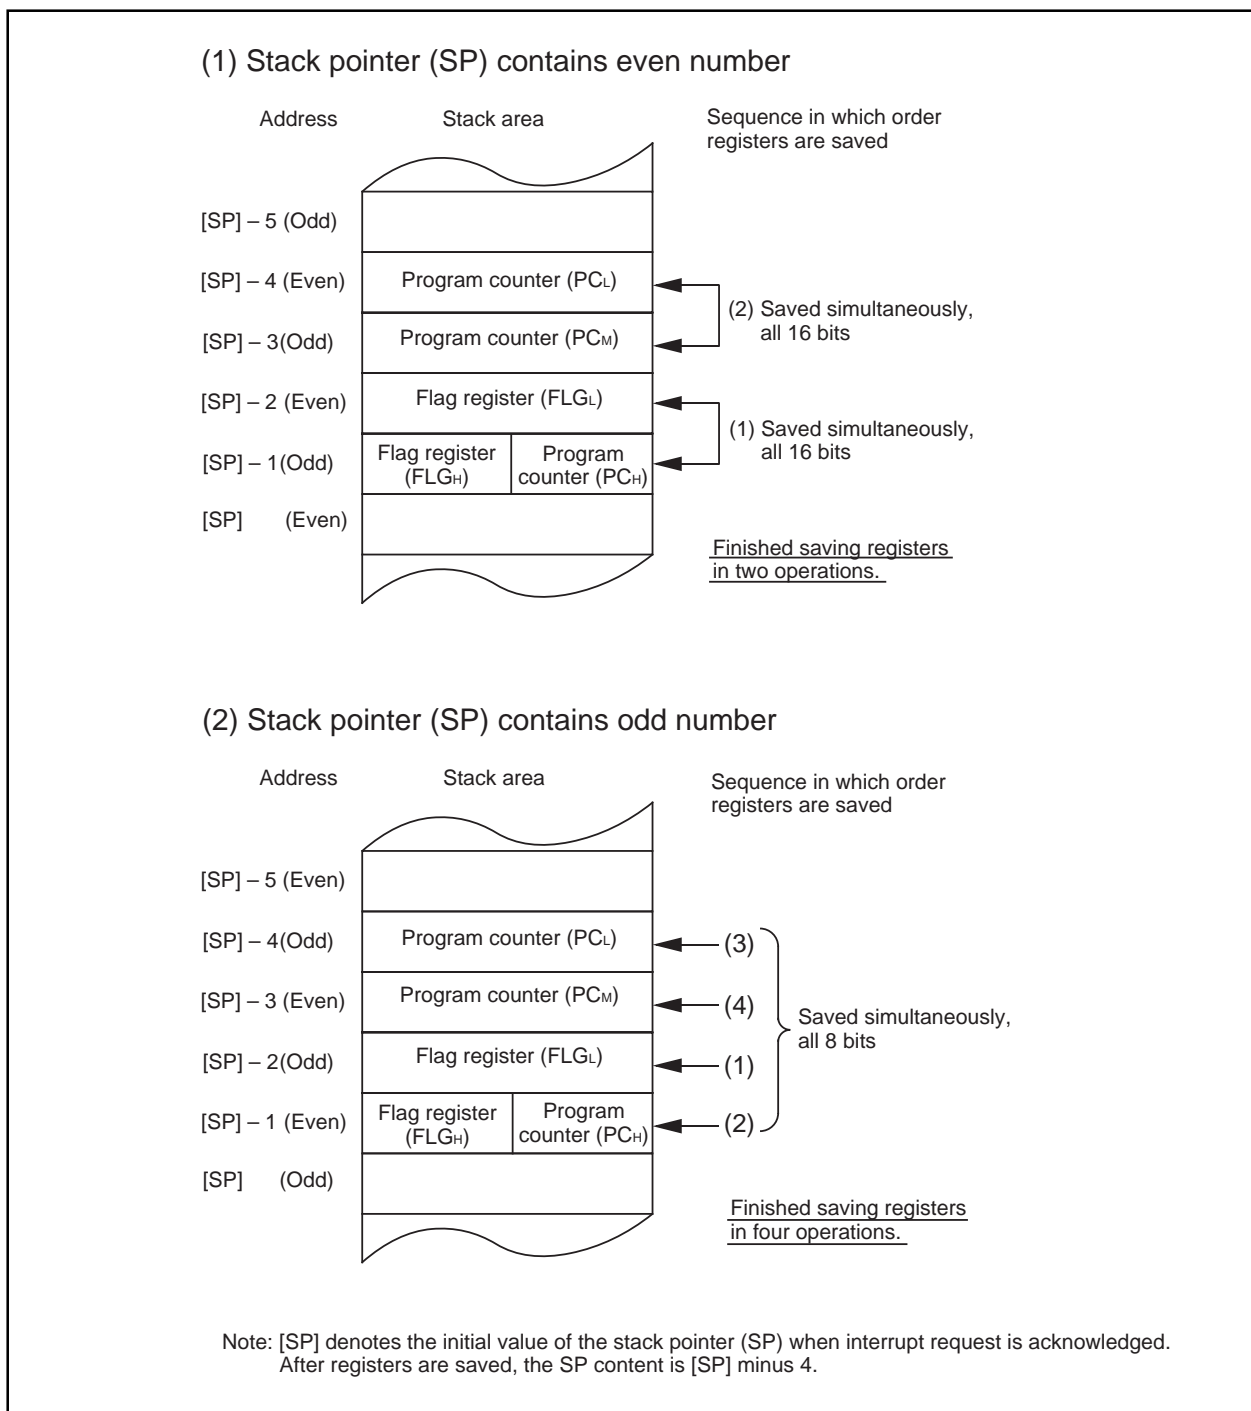

Figure 4.3.4. Operation of saving registers
The operation of saving registers carried out in the interrupt sequence is dependent on whether the content of the stack pointer, at the time of acceptance of an interrupt request, is even or odd. If the content of the stack pointer (Note) is even, the content of the flag register (FLG) and the content of the program counter (PC) are saved, 16 bits at a time. If odd, their contents are saved in two steps, 8 bits at a time. Figure 4.3.4 shows the operation of the saving registers.